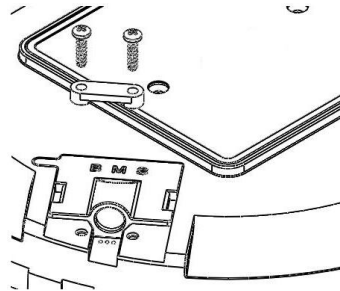

Figure 18 – Removal of BMS Gland Dust Cover
- 2.8.3 Unscrew the cable clamp and retain screw fixings (*See Figure 18*).